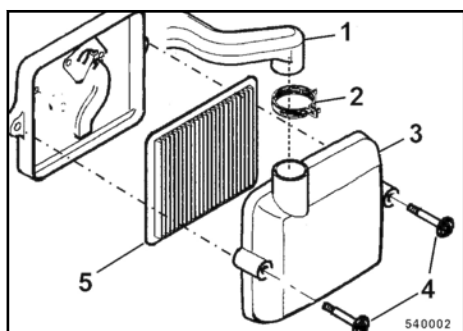

Fig. 84
Loosen hose clamp (2) → Fig. 84 and pull the air supply hose (1) off the air filter housing.
Assemble the air filter (5) ↪ Fig. 84 and the air filter cover (3) to the air filter housing and tighten the screws (4)